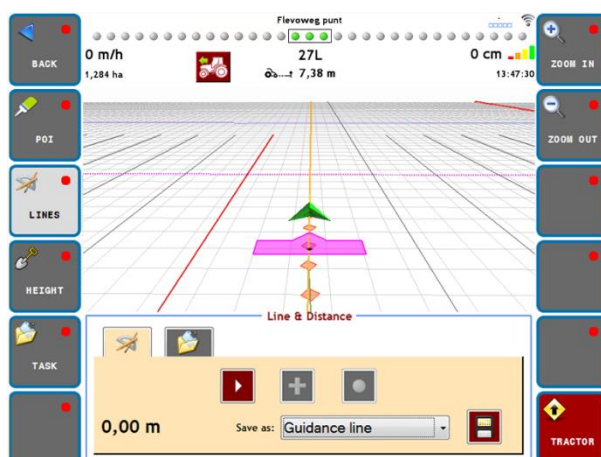

Figure 103 Record curves
1. Choose behind "save as" whether you want to save a reference or navigation line (Figure 103).